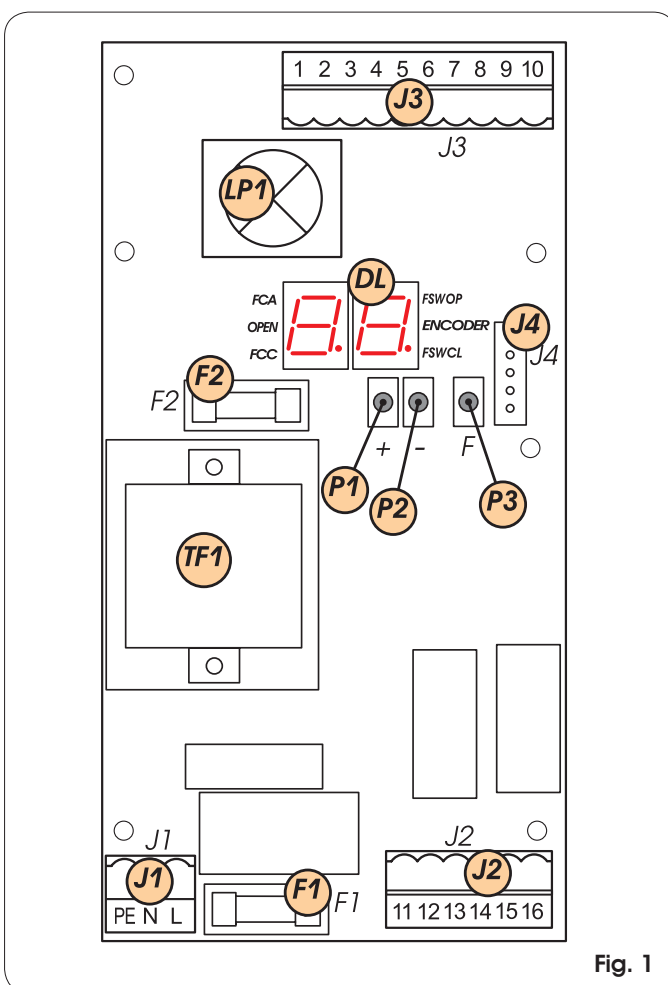

Fig. 1
- Connect the earth cable to the terminal on the J1 connector of the board (see fig. 1).